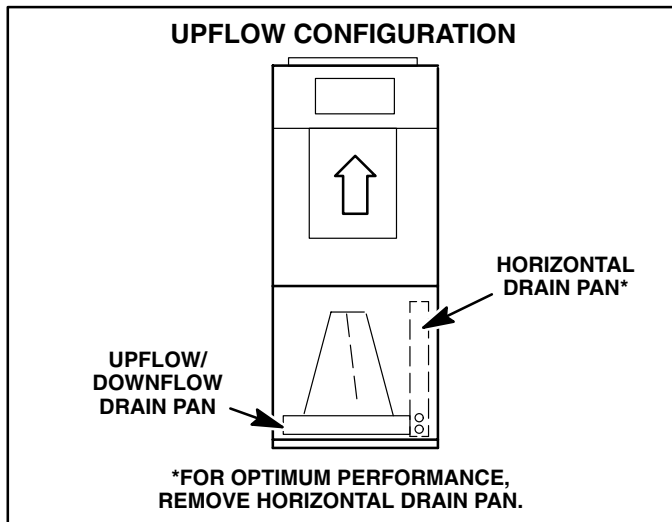

FIGURE 12
- 3- After removing horizontal drain pan, place unit in desired location. Set unit so that it is level. Connect return and supply air plenums as required using sheet metal screws. See figure 12.